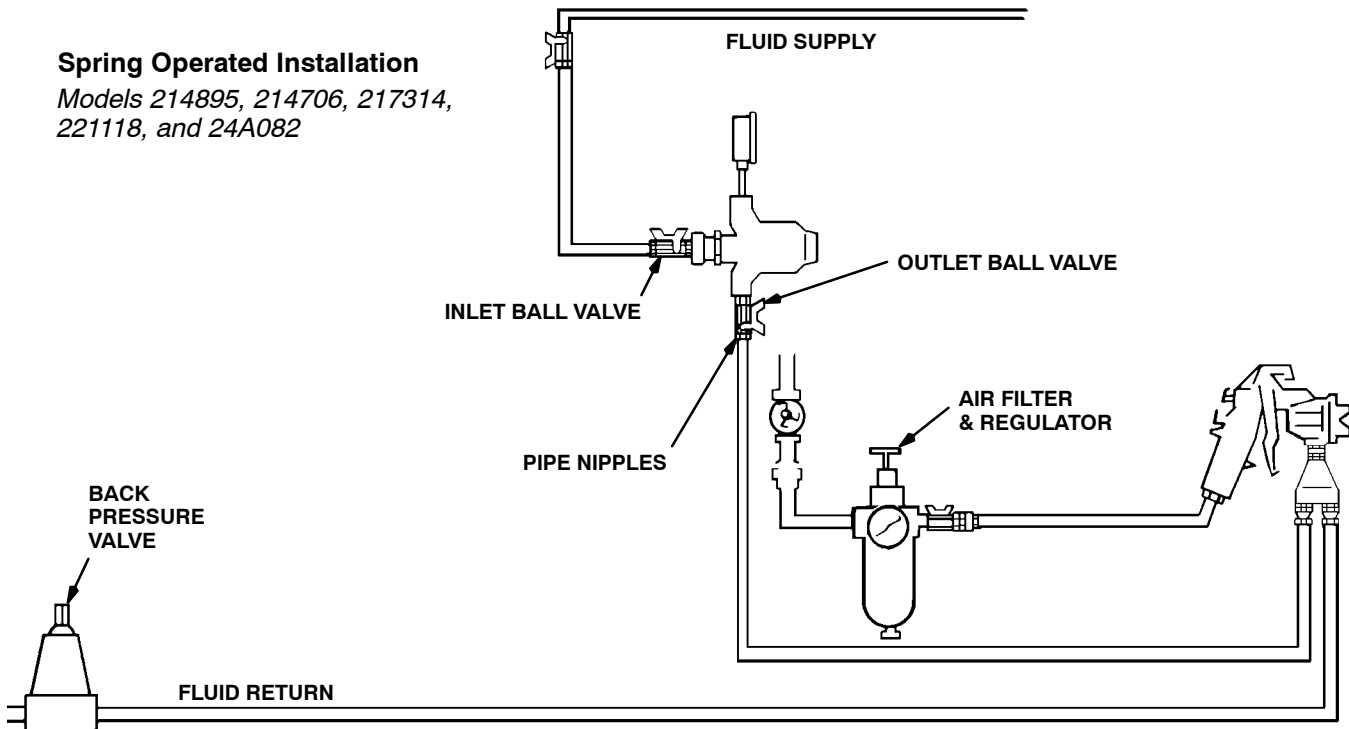

Fig. 1
1. Remove the temporary plumbing and install one regulator for each spray gun. See the **Dimensional Drawing** on page 21 for regulator dimensions. Mount the regulator in a vertical position, as shown in Figs. 1 and 2, for the best flow and minimum pigment settling. The gauge, if used, must be mounted vertically. If the regulator is mounted horizontally, an elbow must be used so the gauge will be vertical.
2. Close the fluid regulator's inlet ball valve. Refer to Figs. 1 and 2.
2. Start the pump and open the fluid regulator's inlet ball valve to admit fluid to the regulator. See Fig. 1.